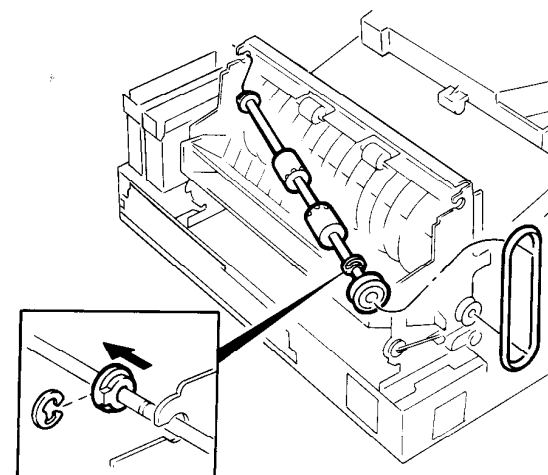

Figure 1. Upper exit roller assembly
5. Remove the E-rings from both ends of the roller (figure 1).